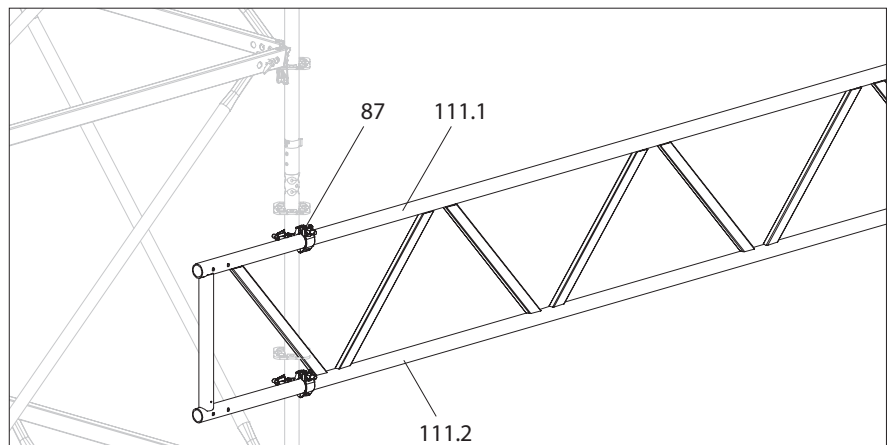

Fig. A13.02
Tightly bolt the lattice girder to the top chord (111.1) and bottom chord (111.2) with the standard coupler (87) on the standard. Tighten the couplings with 50 Nm. (Fig. A13.02)